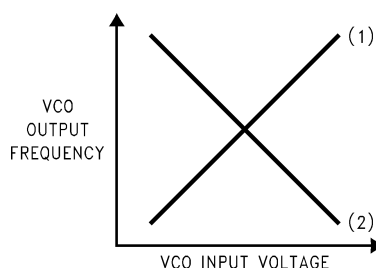

Figure 21. VCO Characteristics
- (1) PHASE DETECTOR POLARITY, Depending upon VCO characteristics, R16 bit should be set accordingly: (see Figure 21) When VCO characteristics are positive like (1), R16 should be set HIGH; When VCO characteristics are negative like (2), R16 should be set LOW.
(2) Refer to POWERDOWN OPERATION.
(3) The I_{CPo} LOW current state = 1/4 × I_{CPo} HIGH current.